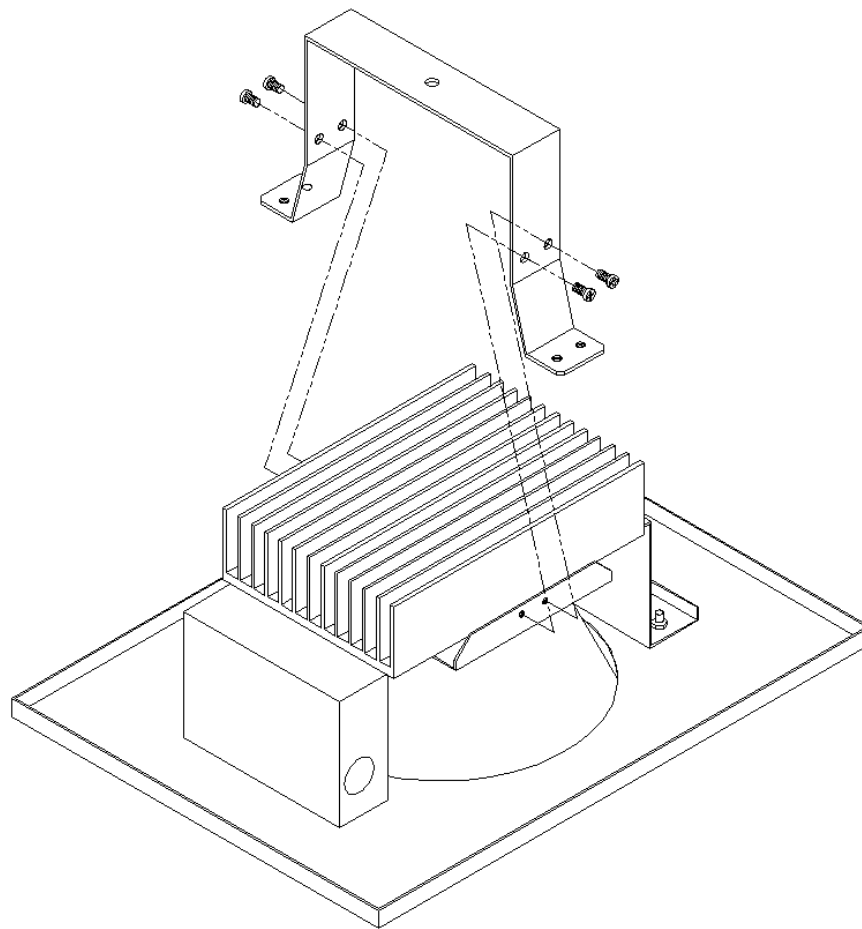

Figure 3-1
2. Using a Philips #2 screwdriver, install the hanging strap to the light fixture using the 4ea 10-32 screws provided. See Figure 3-1.